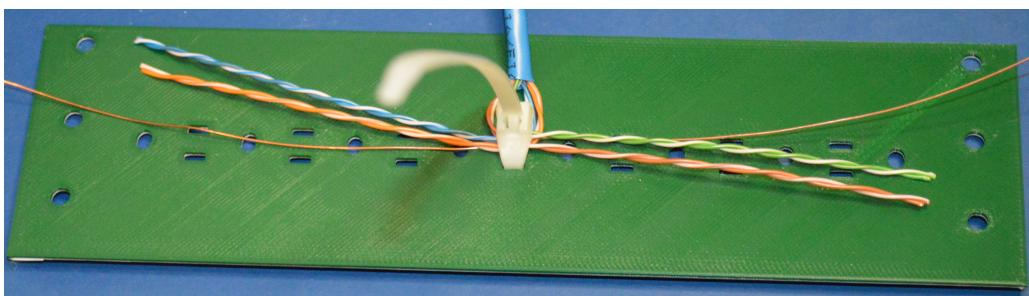

Figure 2.7: Attach the Cable to the Panel
- First using a cable tie, attach the cable to the panel. This helps to keep the cable from moving around while the LEDs are soldered. There is also a bare copper wire used as a ground/return wire for the LEDs. See Figure 2.7.